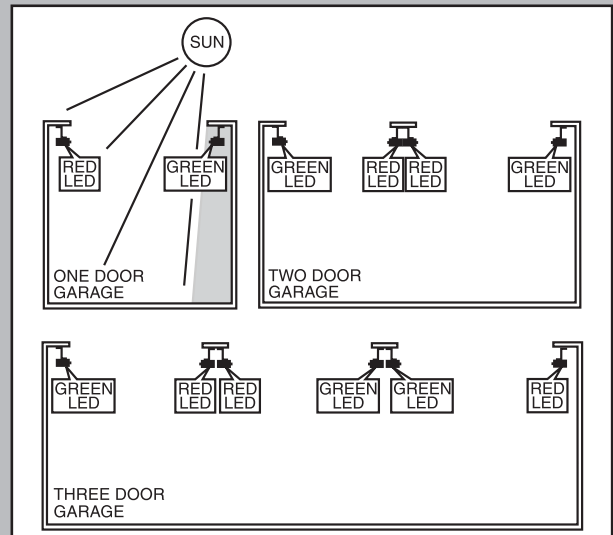

FIG. 3-4 STB locations.
- Determine which side of garage receives most direct sunlight (**Fig. 3-4**).
- Red LED should always be on sunny side whenever possible (**Fig. 3-4**).
- Place source and sensor modules on adjacent doors facing in opposite directions (**Fig. 3-4**).